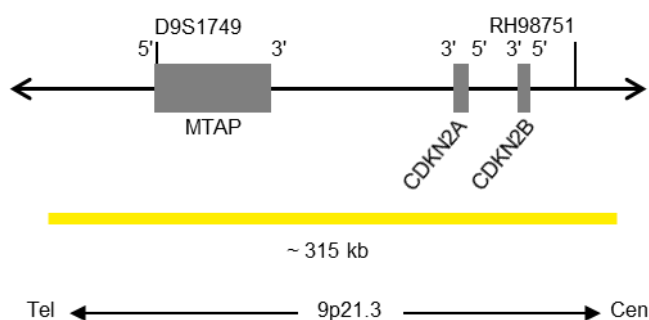

Fig. 1: SPEC CDKN2A probe map (not to scale)
- ZyGold (excitation 532 nm and emission 553 nm) labeled polynucleotides (~5.5 ng/μl), which target sequences mapping in 9p21.3* (chr9:21,742,629-22,056,853) harboring the CDKN2A gene region (see Fig. 1).